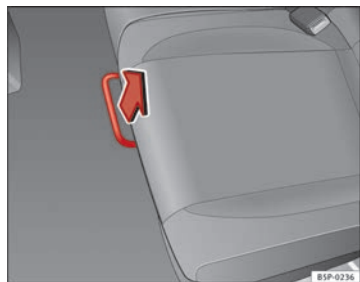

Fig. 96 For unlocking the rear seat
- In the seated position, unlock the lever in the direction of the arrow ⇒ fig. 96.